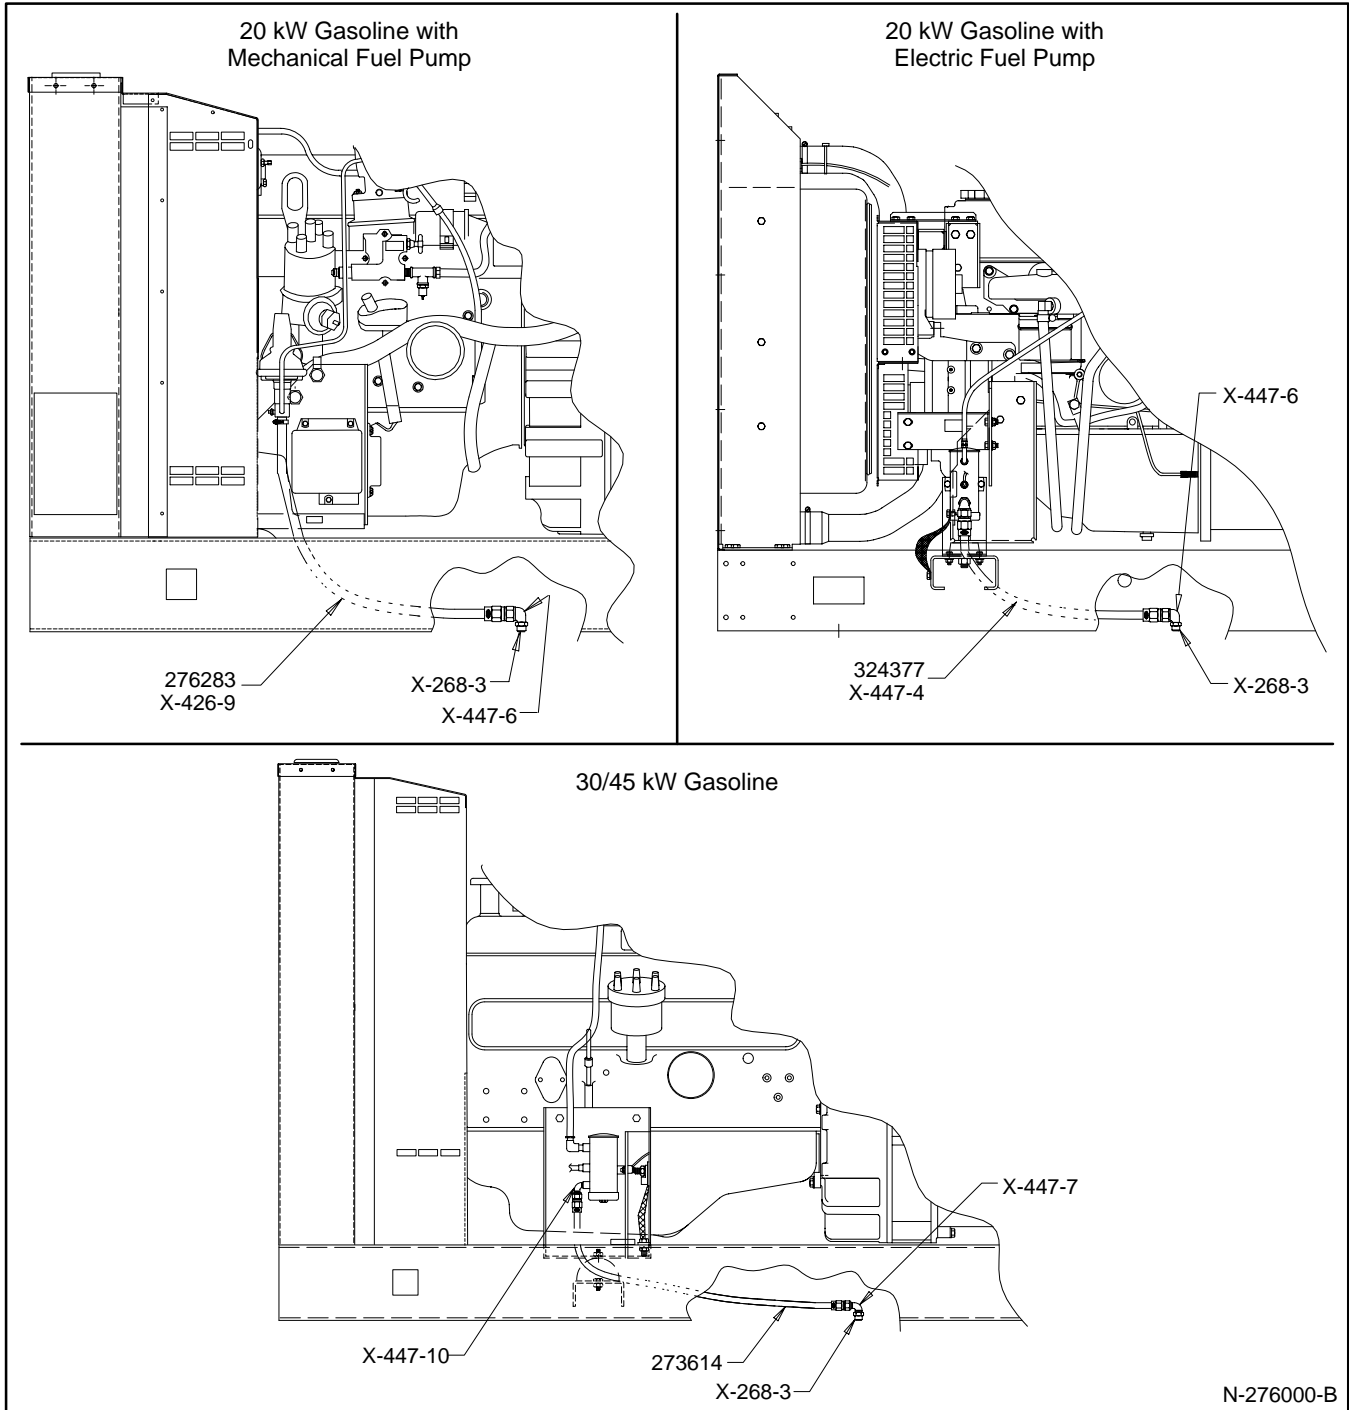

Figure 1. Generator Set Flexible Fuel Line Connections
3. Refer to Figure 1 for installation of the flexible fuel line kit. Apply pipe sealant to all threaded connections. Refer to Parts List for component descriptions.